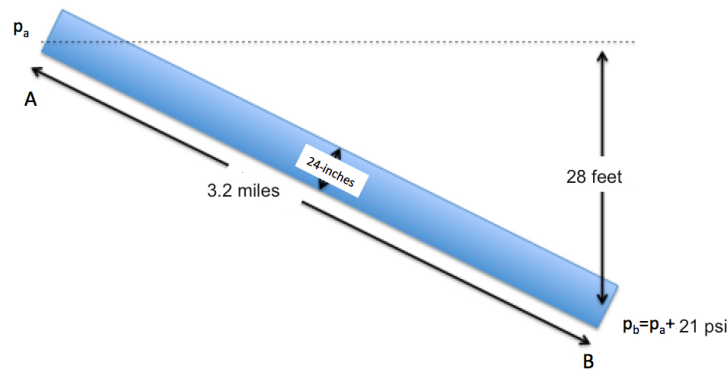

Figure 3: Pipeline Schematic
- (b) Estimate the discharge in the 3.2 mile long, 24-inch diameter, ductile iron pipeline connecting points A and B depicted in Figure 3. Point A is 28 feet higher in elevation than point B. The pressure at point B is 21 pounds per square-inch (psi) greater than the pressure at point A.